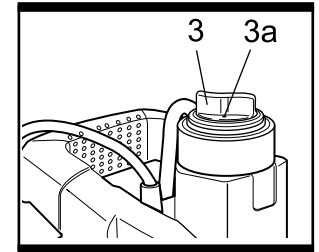

Fig. 5
4. Automatic Air bleed valve. (See Fig. 5)